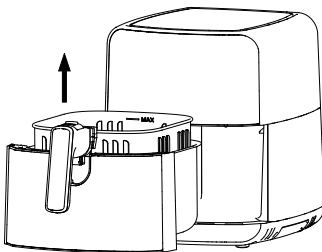

Fig.3
2. Place the basket in the pot (Fig.3). Do not fill the pot with oil or any other liquid. Do not put anything on top of the appliance, the airflow will be disrupted and affects the hot air frying result.
Caution: Do not press the button the handle during shaking. (Fig.3)